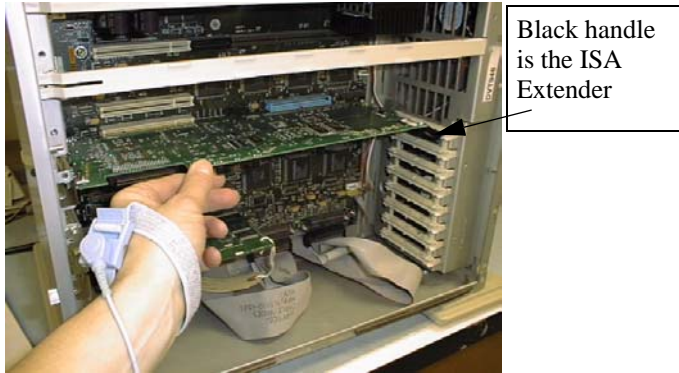

Figure 4. Plugging the eXtremeRAID 3000 into a PCI Slot
1. With the power off, plug (install) the controller firmly into any 32 bit or 64 bit PCI slot, and wear a ground wrist strap as shown in Figure 4. Notice that the black handle must fit into the side slot for a proper fit. (refer to Figure 4).